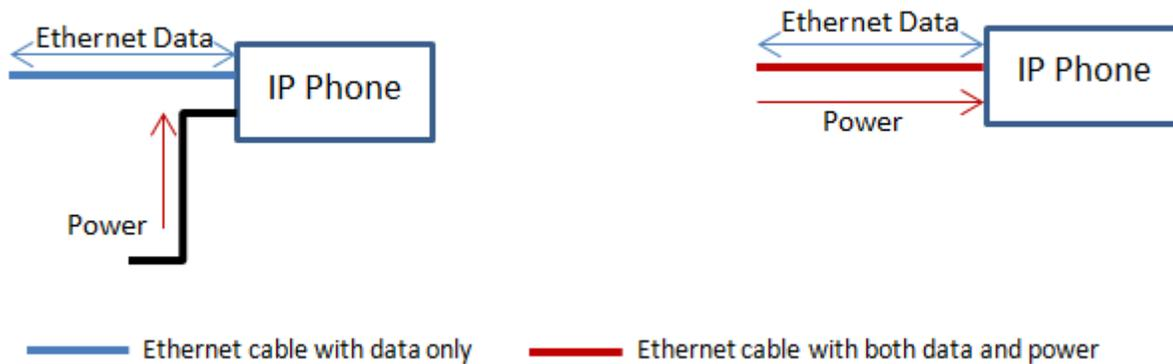

Figure 1. Old & New IP Phone Data/power Path
Power over Ethernet (PoE) enables Ethernet cables to carry electrical power as well as data. For example, old Internet protocol (IP) phones usually needed a DC power supply and Ethernet cable to deliver power and data, respectively. With PoE implemented in an Ethernet switch, power is delivered through the Ethernet cable to the IP phone, eliminating the need for a power supply. See Figure 1.